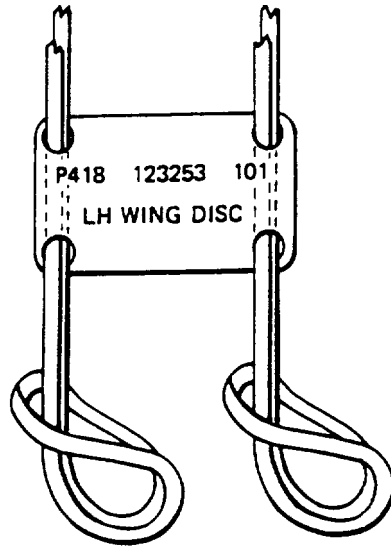

Figure 30. Installing Tape to Marker
93. A marker may be secured to the cable with lacing tape (Figures 30 through 32).